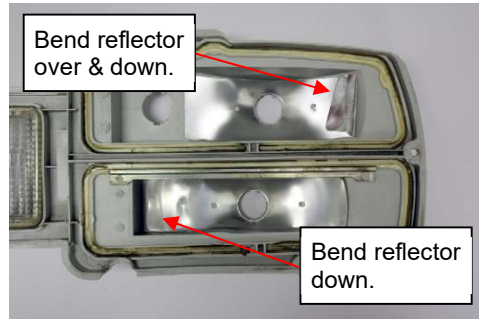

Figure 1
3. To provide room for the LED panels, the aluminum reflectors in the back housing must be modified so they do not protrude above the inner plastic surface. To accomplish this, bend the lower inboard reflector edge downward and then bend the upper outboard reflector edge over & down. (See Figure 1)